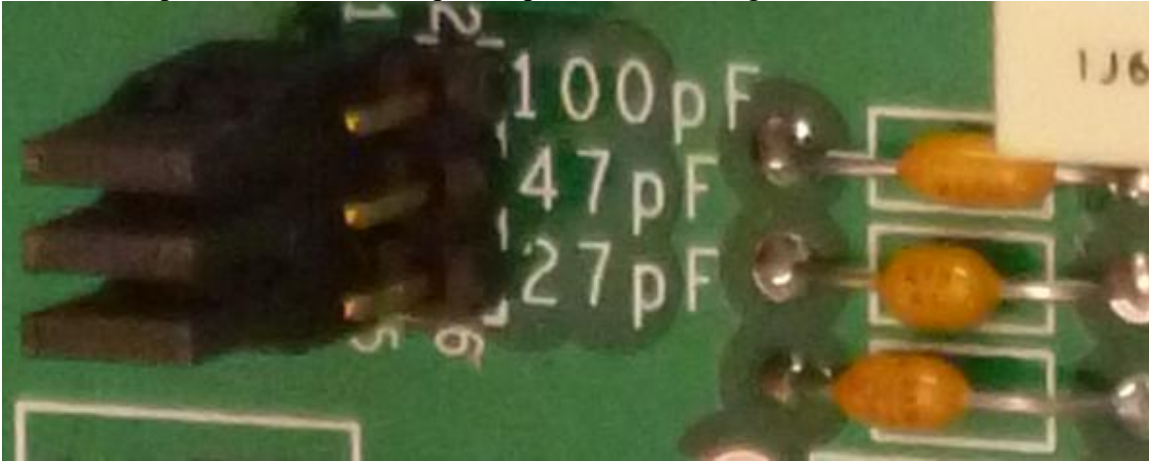

Figure 9-No additional capacitive loading is selected with the short plugs as shown here
3. To *not* select a capacitor, install the shorting plug to only contact one terminal on a line with the capacitance designation, that terminal being the one farthest from the capacitance designation. See Figure 9.